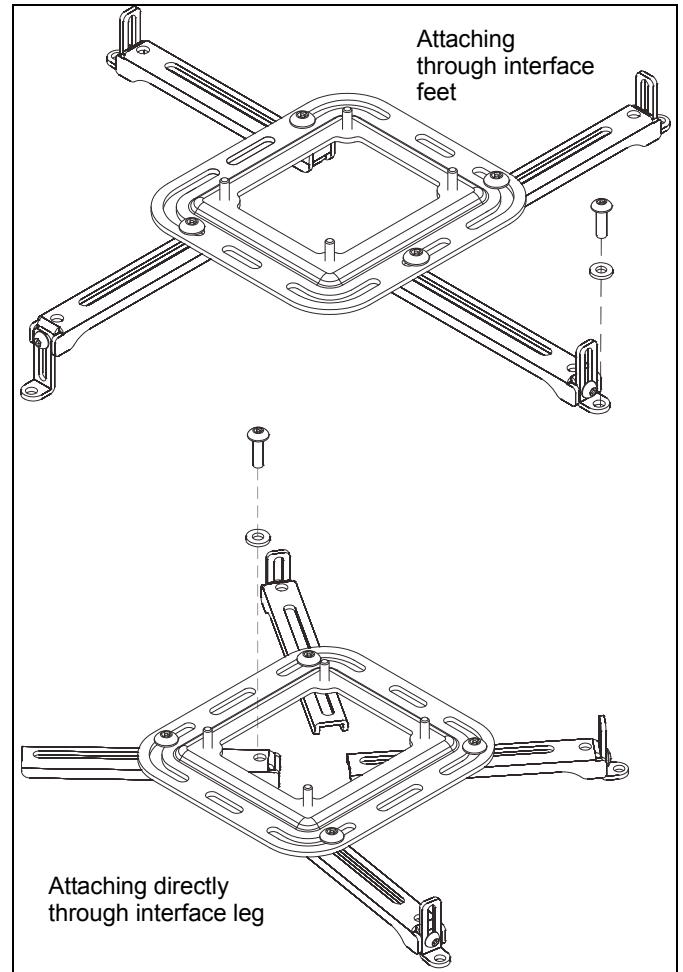

Figure 14
- Attach the universal interface to the projector either through the bracket feet, or directly through the legs. (See Figure 14)